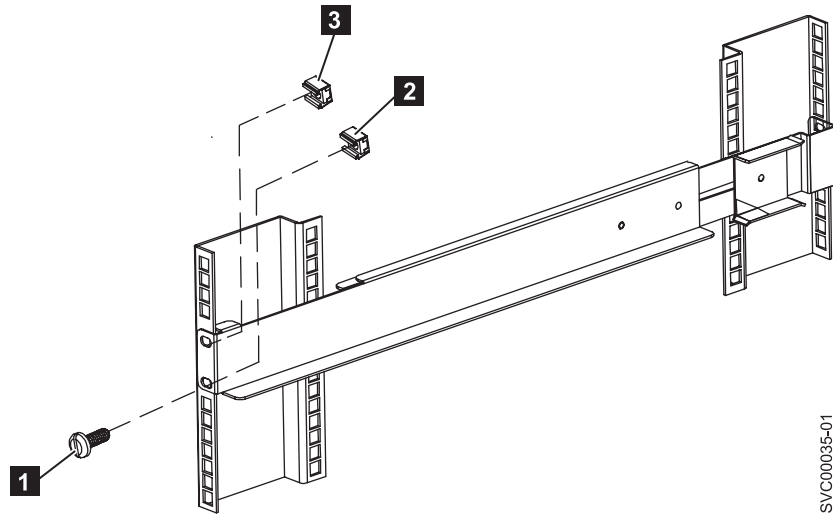

Figure 313. Removing the front rail on the 2145 UPS-1U
3. Remove the clip nut from the top hole of the rail (**3** in Figure 313 on page 325).